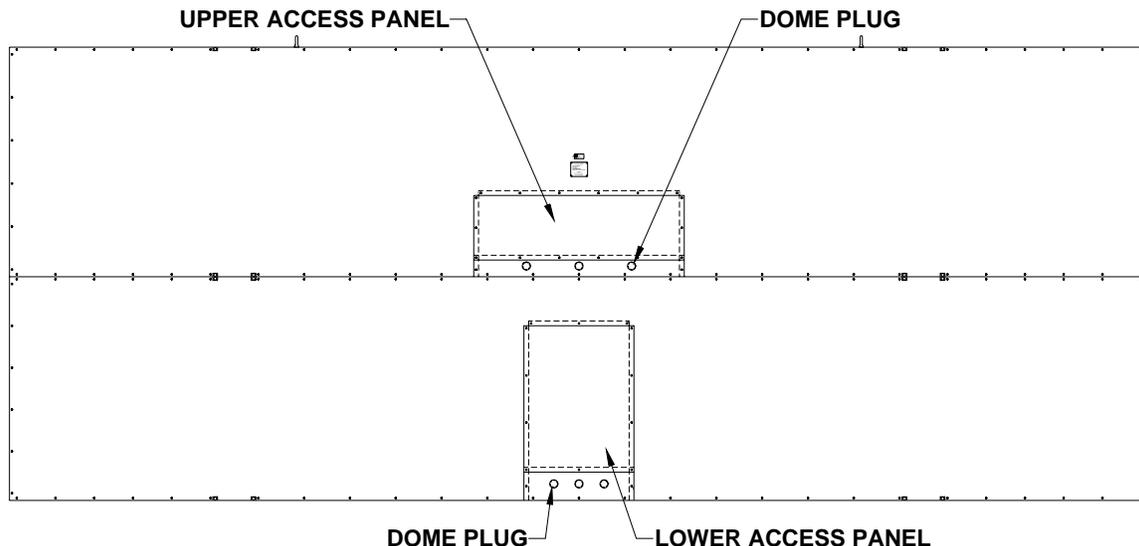

Figure 7 Rear Access Panels
3. Remove the rear access panels and the dome plugs on the plates below the access panels. Figure 7 shows the location of the access panels and the dome plugs.